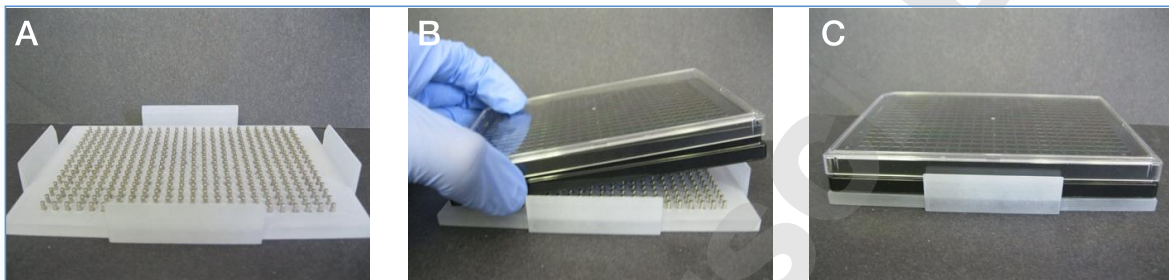

Figure 2: Take the spheroid drive (a) and place a cell-repellent 384-well plate (b) atop the spheroid drive to print the cells into a spheroid (c).
- Place a cell-repellent 384-well plate atop the spheroid drive (Figure 2).